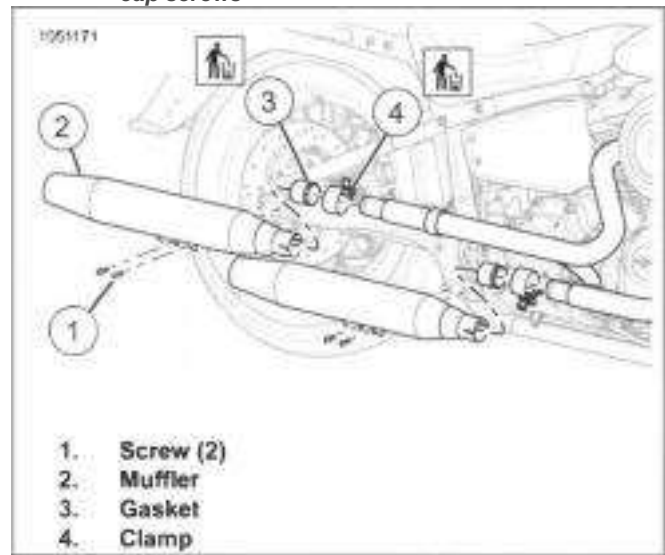
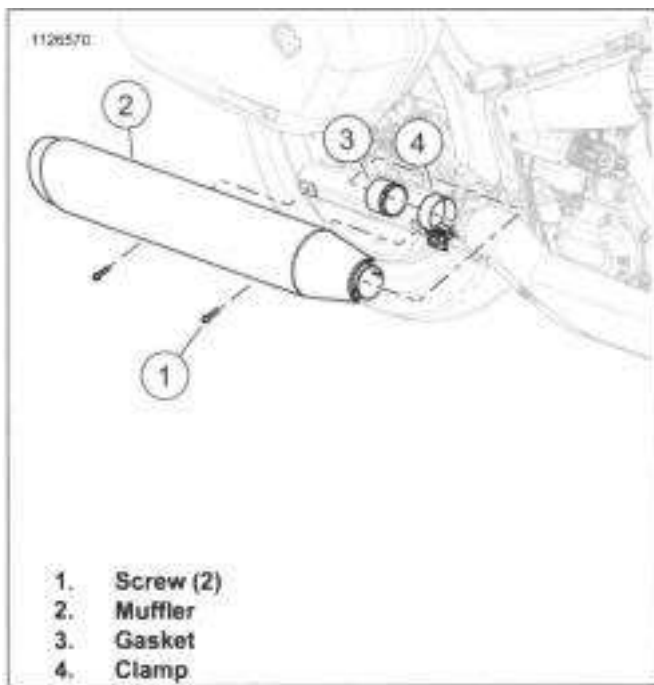

Figure 6-41. Muffler
Figure 6-42. Single Muffler
1. See Figure 6-41, Figure 6-42. Remove muffler.
- a. Discard clamp (4).
- b. Remove screws (1).
- c. Remove muffler (2).
- d. Discard muffler gasket (3), if equipped.
See Figure 6-41 or Figure 6-42. Install new gasket into muffler. if equipped.
2. See Figure 6-41 or Figure 6-42 Install muffler.
- a. Loosely install new clamp (4).